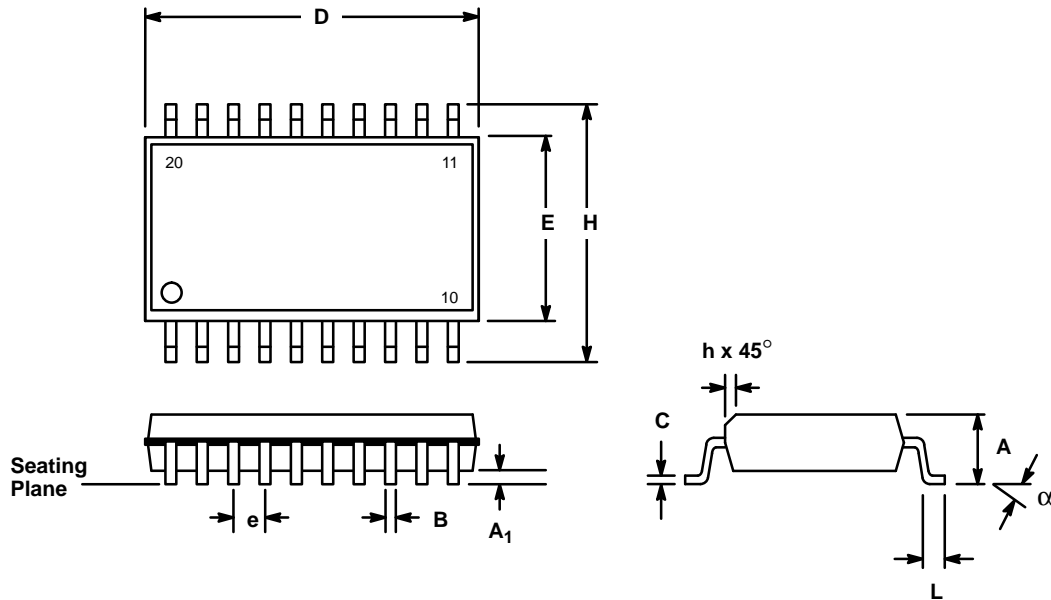

**Figure 1. Typical Interface with an 8-bit Data Bus**
- The timing diagrams for updating the DAC register are shown in *Figures 1 and 2*.